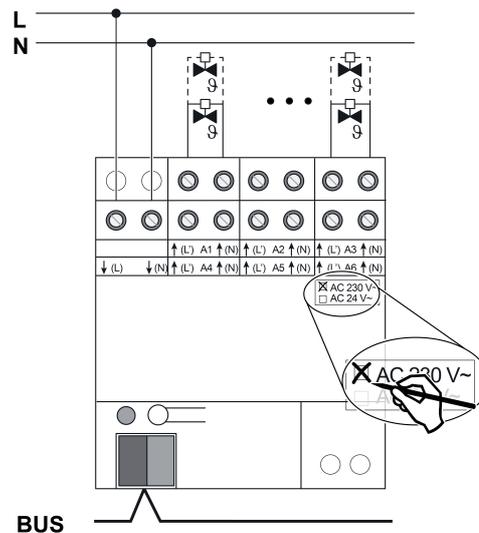

Figure 2: Connection of actuators 230 V
- Connect the AC 230 V valve drives according to the connection diagram (figure 2).